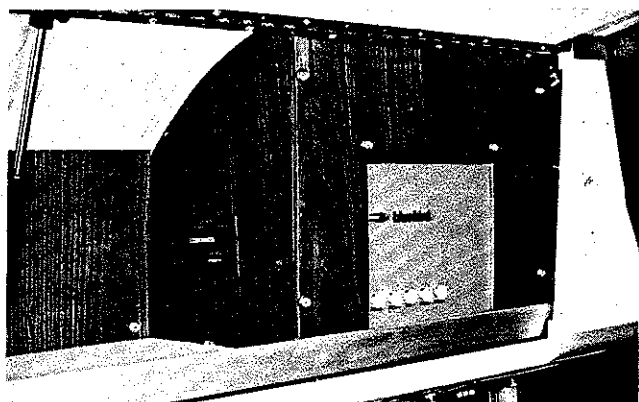

Figure 2-16. Picture Control Panel
- Picture brightness and color adjustment panel, located in the compartment above the CCTV controls, figure 2-16.